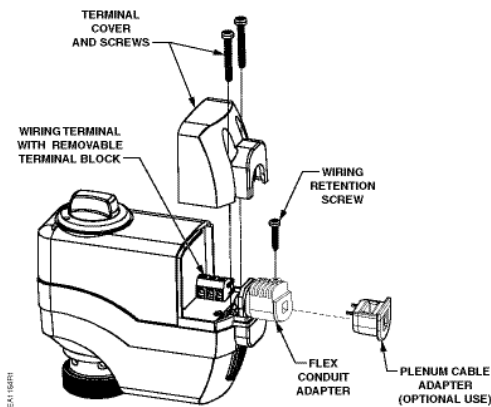

Figure 2. SSC Actuator Components.
1. Remove the terminal cover (Figure 2) using a Phillips head screwdriver.
3. Using a Phillips head screwdriver, remove the terminal cover (Figure 2).
9. Secure the terminal cover in place over the wiring terminals (Figure 2) using a Phillips head screwdriver.